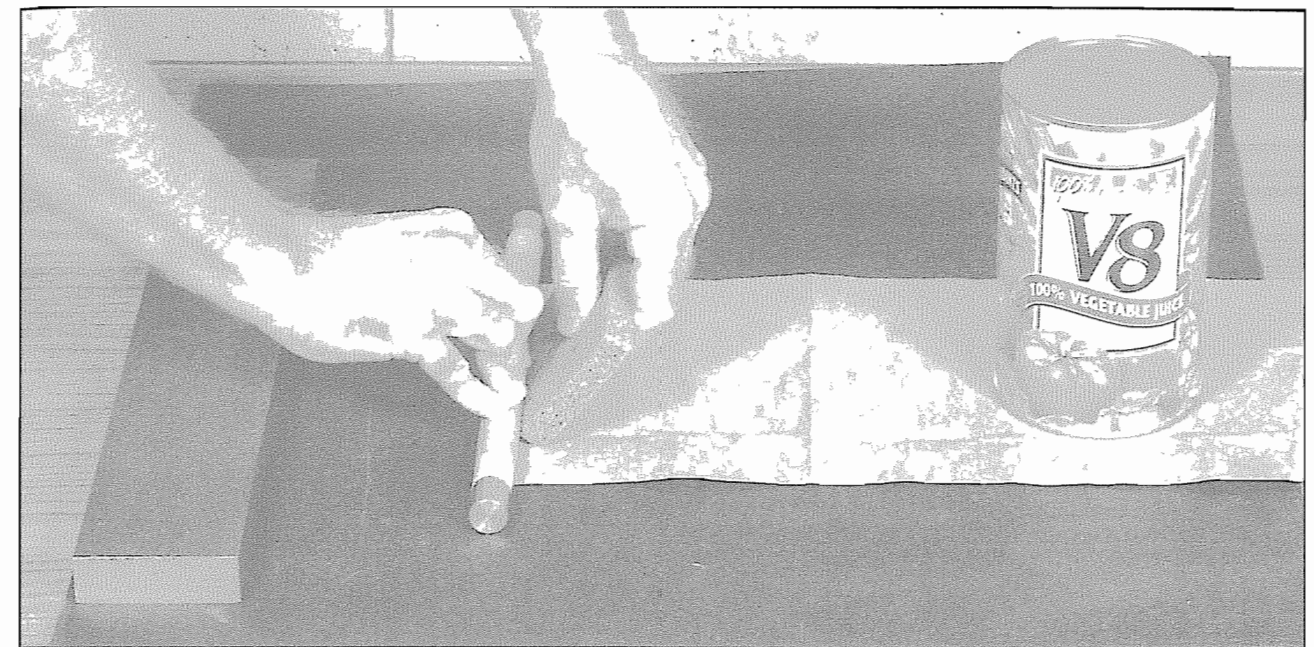
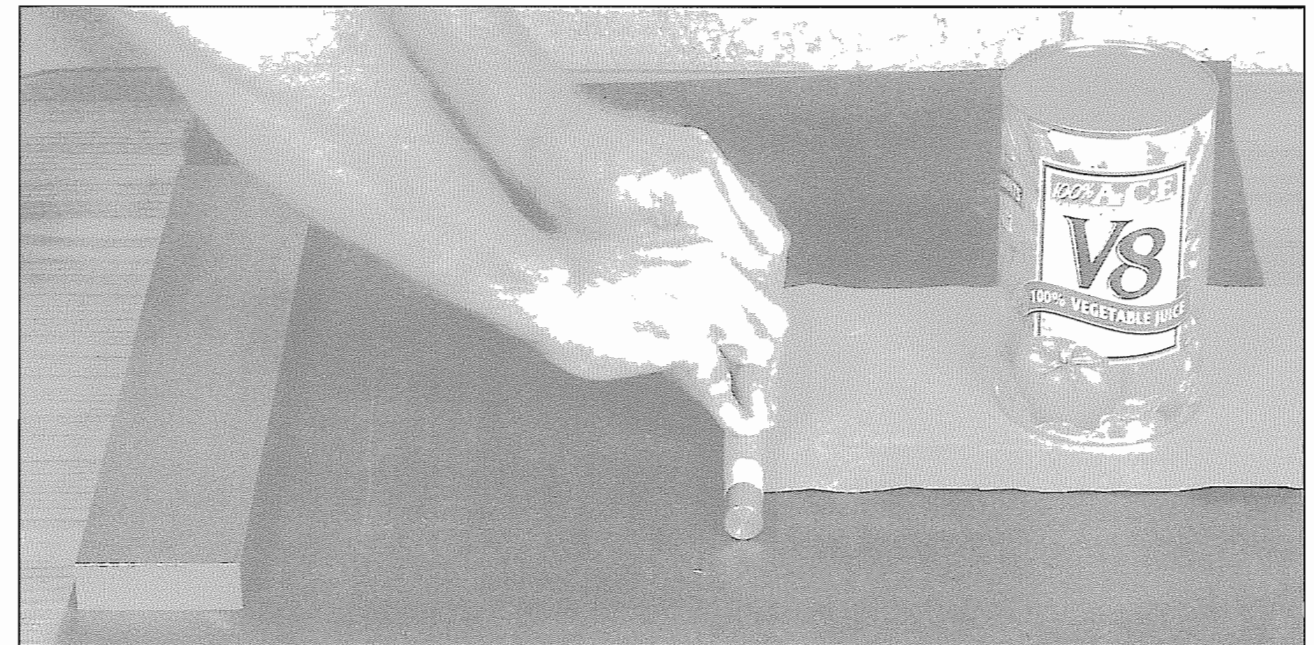

Figure 8-11. The first 6" of paper are dampened.
Figure 8-12. The bar is rolled forward over the dampened paper.
7. Holding the bar firmly in place with one hand, soak the sponge in the **ALCOHOL SOLUTION**. With your free hand, squeeze the sponge about 3/4 dry. Dampen about 6" of paper in front of the bar, taking care to squeeze the sponge as far under the bar as possible (Figure 8-11). The amount of moisture needed isn't much: just enough to make the glue glossy and sticky again. *Without delay*, roll the bar forward over the dampened paper, pressing down firmly as you go (Figure 8-12).